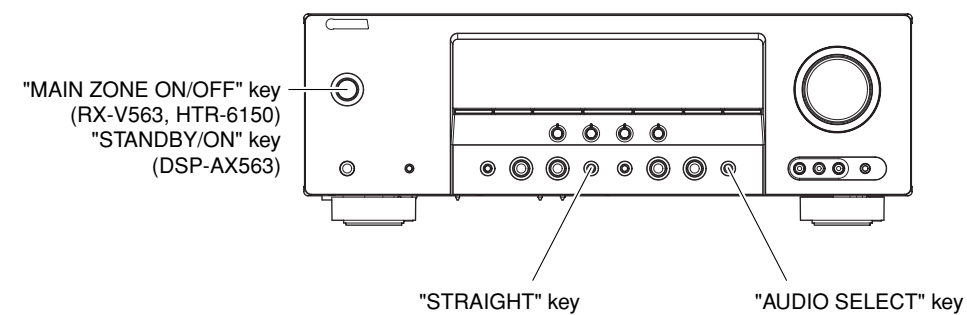

Fig. 7
2. Press the "MAIN ZONE ON/OFF" (RX-V563, HTR-6150) / "STANDBY/ON" (DSP-AX563) key while simultaneously pressing the "STRAIGHT" and "AUDIO SELECT" keys. (Fig. 7)